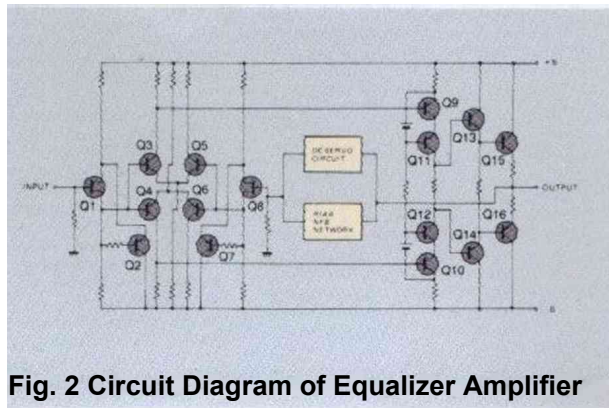

Fig. 2 Circuit Diagram of Equalizer Amplifier
Disc sound quality largely depends on the equalizer (EQ) amp, because the EQ amp determines RIAA characteristics. The circuit diagram of the E-303X's EQ amp is shown in Figure 2. The input stage is a differential amplifier with an FET buffer, the pre-drive stage is a cascode circuit composed of Q9-Q12, and final stage is a Darlington pair output composed of Q13-Q16. Each stage employs push-pull circuitry.